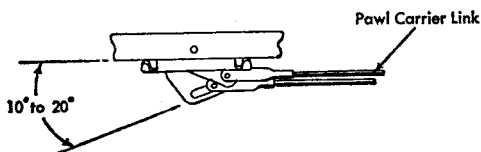

Figure 41. Pawl Carrier Link Adjustment
7. BACKSPACE PAWL CARRIER LINK. Adjust so that the slot in the bellcrank on the rear rail will lie at a 10 to 20 degree angle with the rear rail when the cam is at rest (Figure 41). **CAUTION.** If the angle is too great the backspace pawl may not be disengaged from the ratchet when the mechanism is at rest.